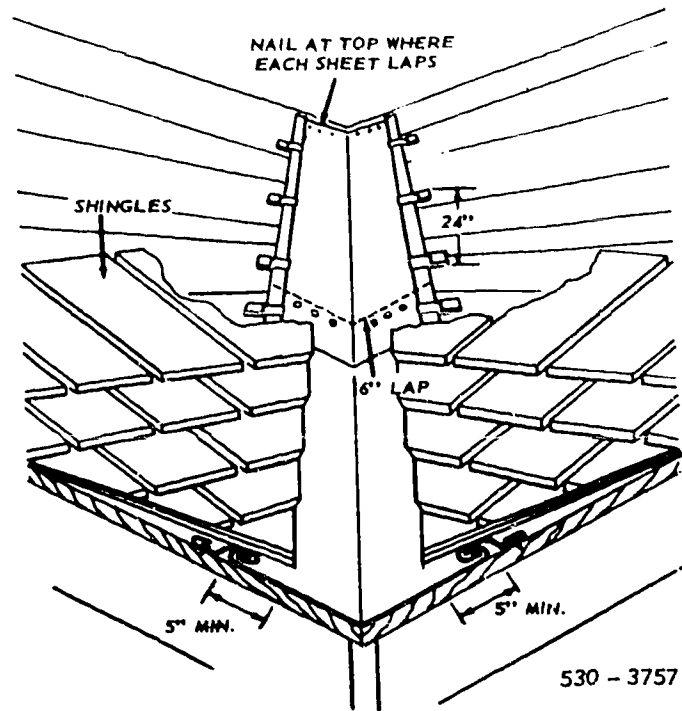

Figure 3-16. Valley flashing.
**Valley flashing.** Valley flashing, such as shown in figure 3-16, is used where two sloping roofs join. Valley flashing may be fastened to roof decks, sides of buildings, ridge and the edges of gables and eaves. Typical fasteners are cleats, nails, screws, or nuts and bolts. In some cases, flashing may be riveted. The type of fastening device is usually specified on the drawing.